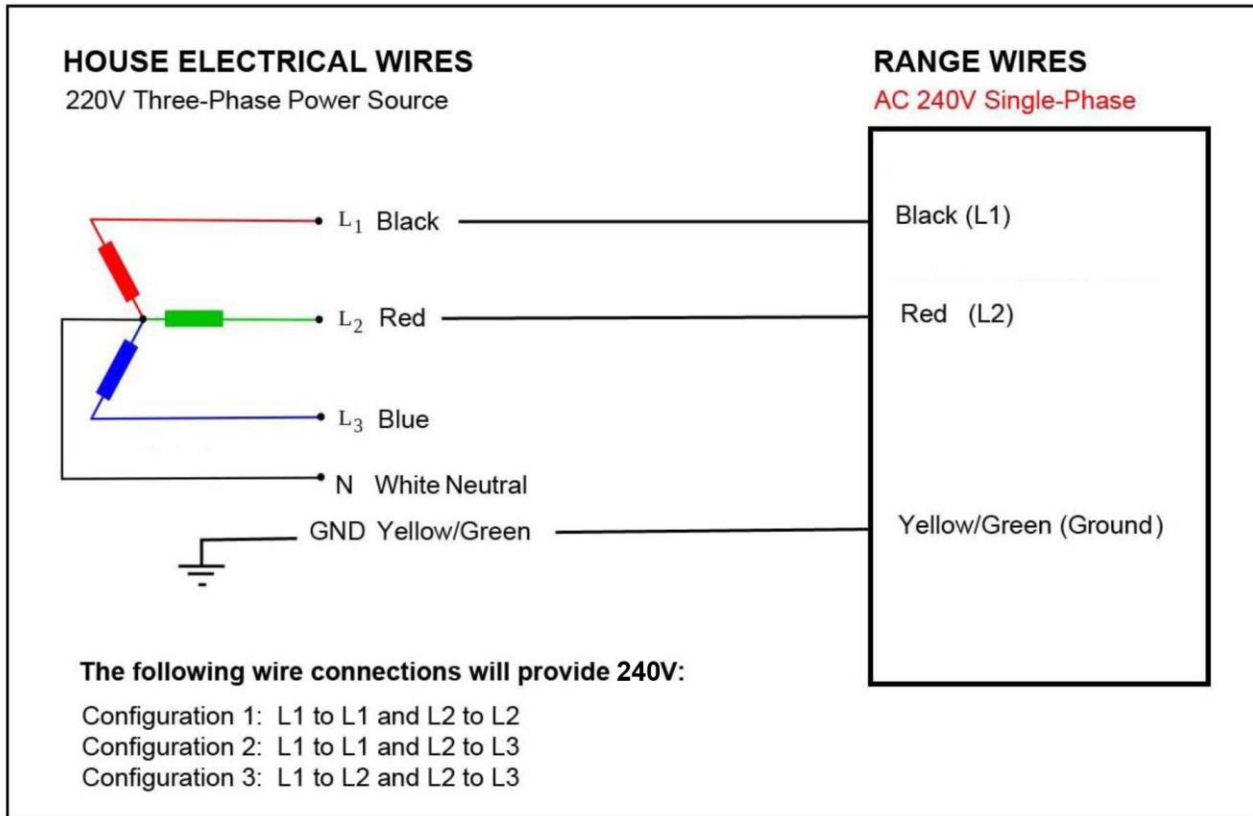

Figure 8
- 2) Follow the diagram below to know how to connect the freestanding range wires to the electrical main wires of the home. (See Figure 8)